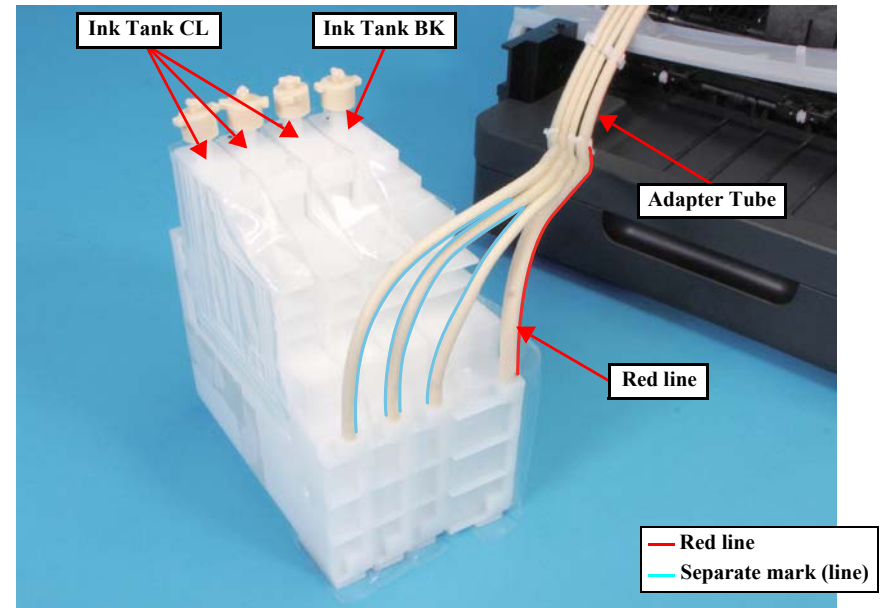

Figure 3-42.
- Red line is written on the tube for black ink (the tube is thicker than the one for the other colors) and lines made when separated the tip are on the tubes for color ink. When connecting the Adapter Tube to the adapter, direct each line in the correct direction referring to Figure 3-42.